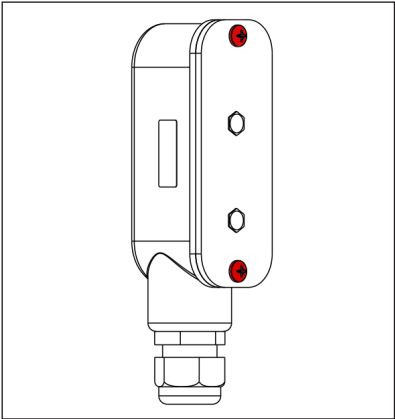

Figure 9: Remove Light Sensor Screws
- a. Use a Phillips screwdriver to remove the two #8-32 x 0.500 machine screws (HC-1144) in the light sensor and set the screws aside for **Step 3.b**. Refer to **Figure 9**.